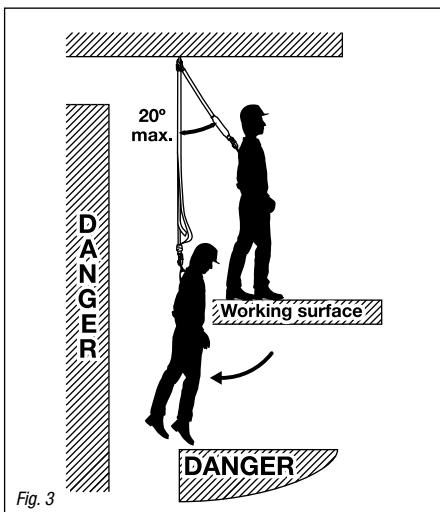

Fig. 3
- 3.2.4 Always work in a manner to avoid a swing fall injury (*Figure 3*).
Be aware that a pendulum fall could occur if the worker moves laterally from the anchorage. Swing falls can cause serious injuries. Always work directly under the anchorage point to avoid a swing fall injury. If you cannot work directly under the anchorage, ensure the fall path is free from any obstruction. Never exceed a 20° angle (*Figure 3*).